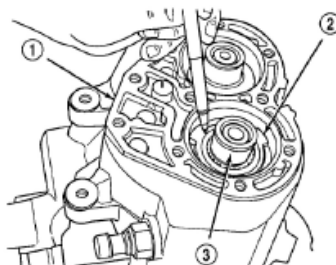

Figure 3-66 Friction cone flange
(7) Align the reverse brake friction cone flange against the gear box groove (Figure 3-66) and confirm the reverse brake cushion is put in place.